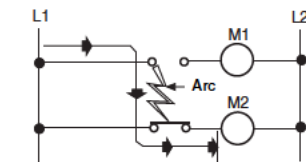

Figure 8 - Contacts connected to same polarity. Line to line short cannot occur when contacts operate
- The single pole, double throw contacts of a snap switch used in a limit switch should not be used on opposite polarities. When load M1 is connected between the contact and line L2 and load M2 is connected between the other contact and line L1 (figure 7), a line-to-line short (bold line) can occur through the arc which may be drawn as the contacts operate. When contacts are connected to the same polarity (figure 8), this line-to-line short cannot occur. The same result can occur if different power sources are connected to the single pole, double throw contacts of a snap switch.